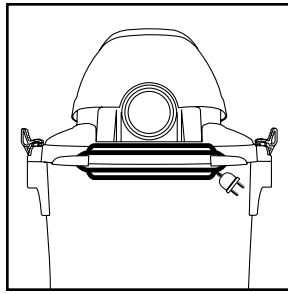

FIGURE 24
46. Before storing your vacuum cleaner the tank should be emptied and cleaned. The power cord can be wrapped around the cord wraps provided on the tank cover on rear of unit. **(FIGURE 24)**